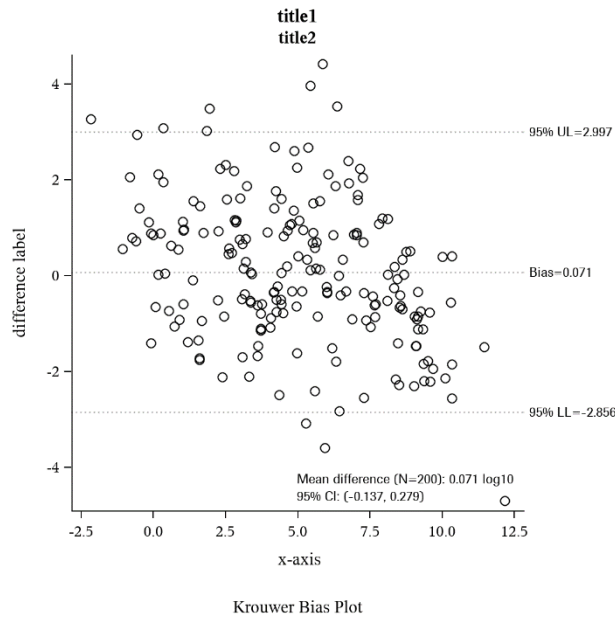

Figure 2A: This Krouwer bias plot captures the lower limit, bias, upper limit, sample size, mean difference and 95% CI for the mean difference inside the graph.
Figures 2A and 2B show the Krouwer bias plots. Similar to Figures 1A and 1B, respectively, Figure 2A captures the lower limit, bias, upper limit, sample size, mean difference and 95% confidence interval (CI) for the mean difference inside the graph. Figure 2B captures the lower limit, bias, upper limit, ordinary least squares (OLS) regression line with 95% CI for the slope of the line.